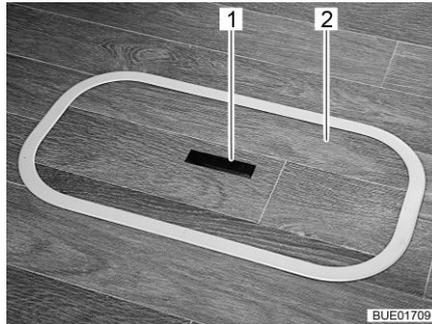
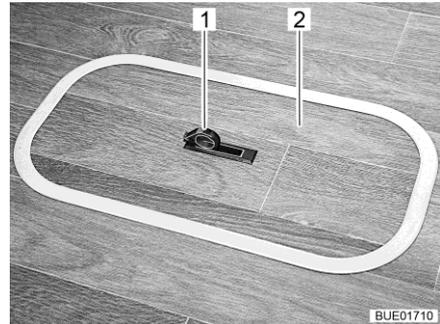

Fig. 68 Floor compartment cover
Fig. 69 Floor compartment cover
- Push one side of the grip plate (Fig. 68,1) downwards. The handle (Fig. 69,1) swivels upwards.
- Remove the cover (Fig. 68,2 or Fig. 69,2) upwards.